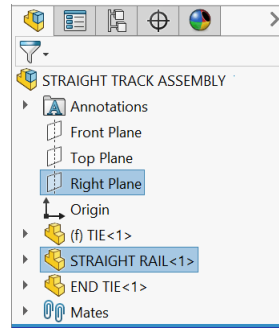

Fig. 22
Step 1. **Ctrl click Right Plane**  and Rail  component in the Feature Manager to select plane and component, **Fig. 22**.